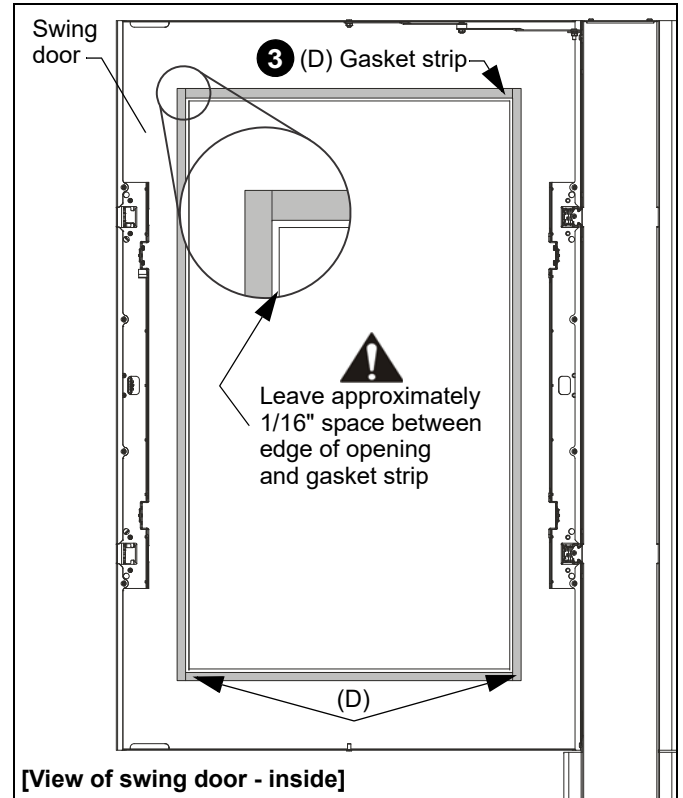

Figure 7
2. Clean the inside edge of the swing door (approximately one inch depth around entire opening) with an alcohol wipe or something similar, and let dry. (See Figure 7)
3. Install gasket strip (D) around inside edge of swing door opening. (See Figure 7)